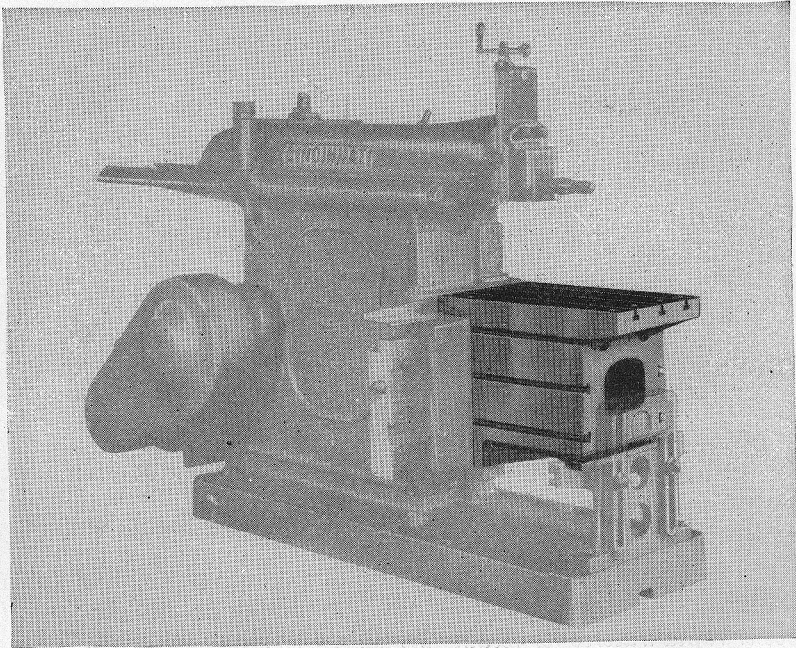
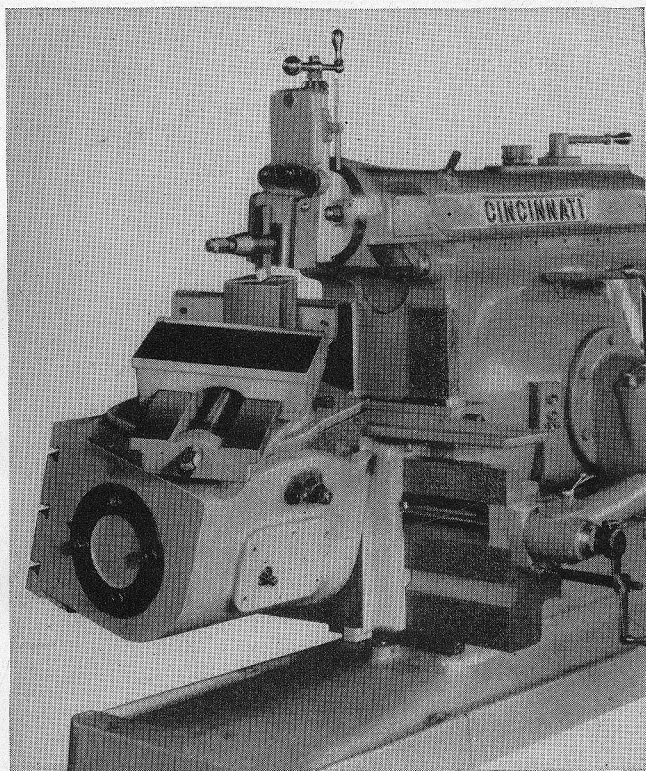

Fig. 1-10. A plain table. (*The Cincinnati Shaper Company*)
Fig. 1-11. The universal table. (The Cincinnati Shaper Company)
**Worktables.** Worktables, usually supplied with shapers, may be of two kinds: *plain* and *universal*. The plain type is the one usually supplied unless the universal is specified. Figure 1-10 shows a plain type and Fig. 1-11, the universal.